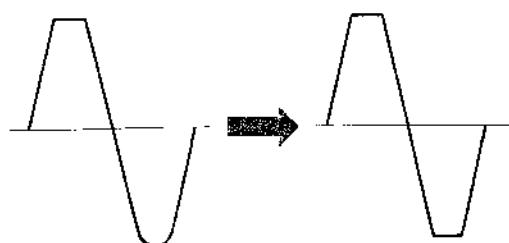

Fig. 4-7-2 AC Balance Adjustment
2. Turn the volume control gradually and watch the waveform on the oscilloscope. Adjust R_{405} ($50\text{ k}\Omega\text{-B}$) to obtain an output waveform such as the positive and negative peaks are clipped at the same time when increasing the volume control. See Fig. 4-7-2.